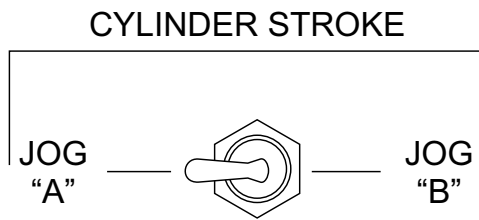

Figure 60. Manual Cylinder Jogging Switch
2. Place and hold the *manual cylinder jogging switch* (Figure 60) in either the **JOG "A"** or **JOG "B"** position to test the pressure of that particular cylinder.